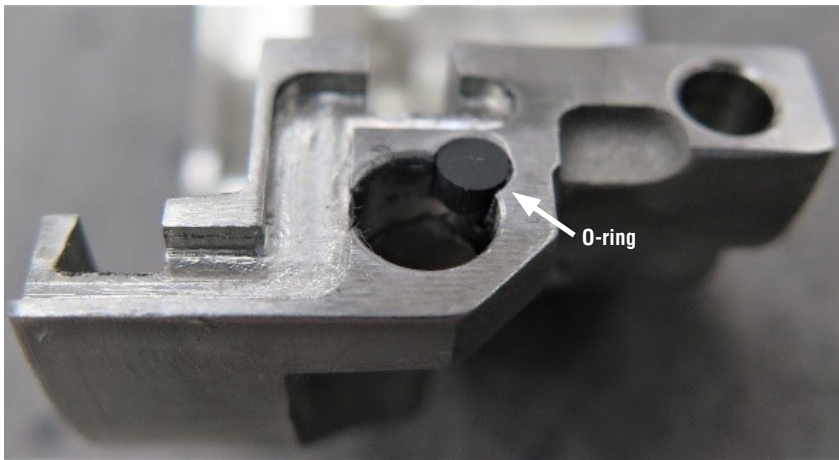

Figure 5
- 3.3 Push the end of one O-ring half into the hole and hold it in place for 10 seconds. When the adhesive has set up, use a safety razor blade and trim the O-ring flush with the seal drive joint surface. See Figure 5.